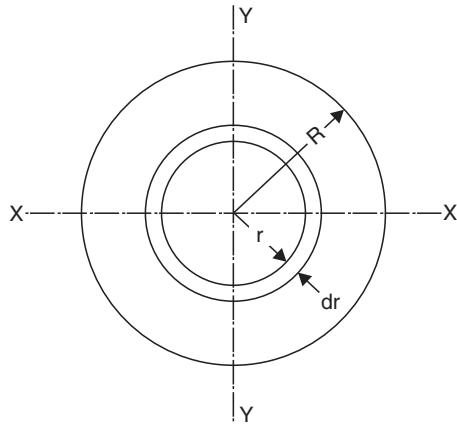

Fig. 8.12
**4. Moment of inertia of a circular lamina.** Fig. 8.12 shows a circular lamina of radius  $R$ . The lamina may be considered as consisting of infinite number of elemental concentric rings. Consider one such elemental ring at a radius  $r$  and having a thickness  $dr$ .